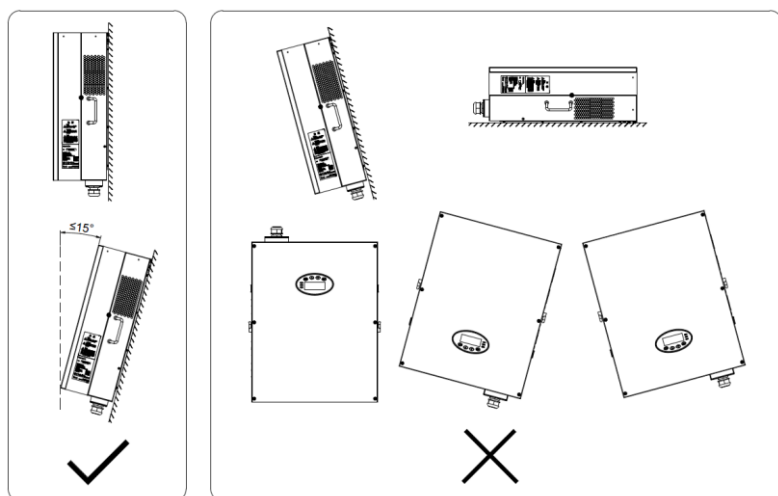

Fig 4.6 Installation position of the inverter
- (4) The ambient temperature of installation should be -25°C ~ 60°C
- (5) The installation site should be away from electronic devices which can generate strong electromagnetic interference
- (6) The inverter should be installed on firm and solid surface eg wall surface and metal bracket
- (7) The installation surface should be vertical to the horizontal line, as shown in Figure 4.6